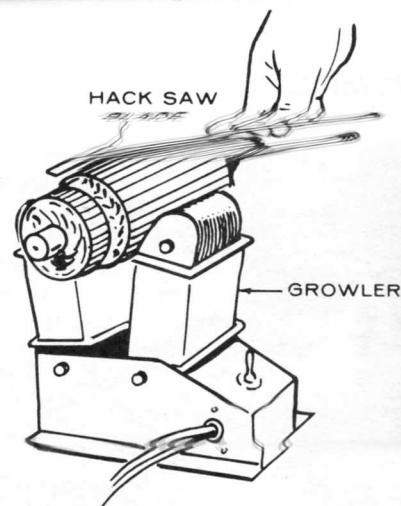

FIGURE 49. TESTING ARMATURE FOR SHORT CIRCUITS
2. **Testing Armature for a Short Circuit:** Use a growler for locating shorts in the armature. Place armature in growler and hold a thin steel blade (e.g. hacksaw blade) parallel to the core and just above it while slowly rotating armature in growler. A shorted armature will cause the blade to vibrate and be attracted to the core. If armature is shorted, replace with a new one (Figure 49).